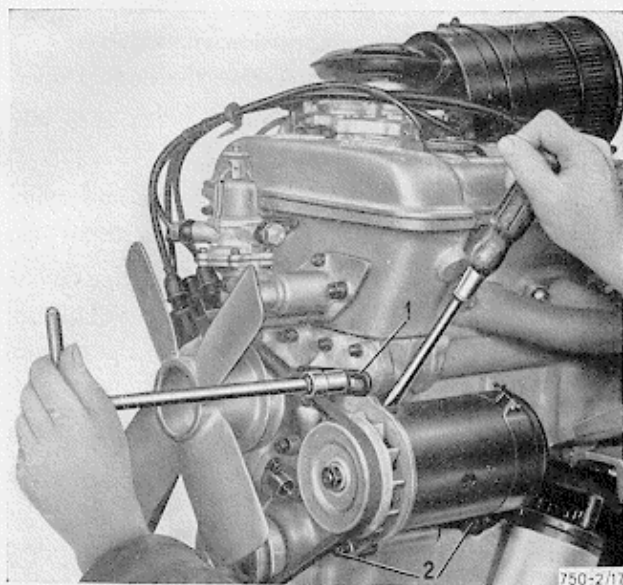
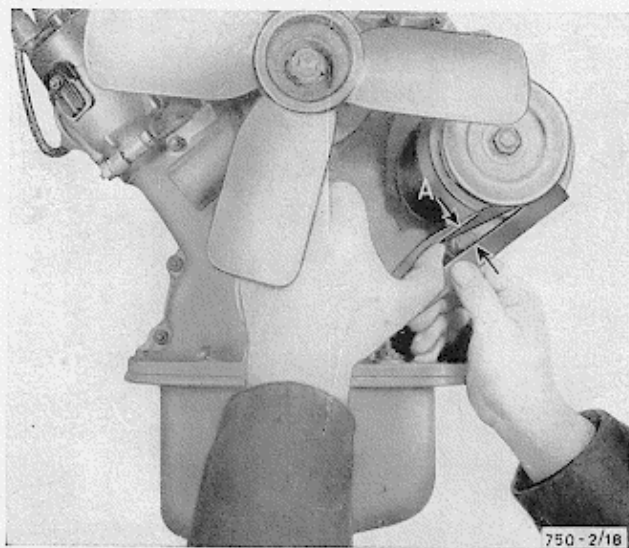

Fig. 17 - Tensioning the fan and dynamo driving belt:
Fig. 18 - Checking the tension of the fan and dynamo driving belt
l) **Check the tension of the belt driving the dynamo and the fan**; belt tension can be increased by moving the dynamo outwards after first slackening the top nut on the tensioning device **1** (fig. 17) and the two
nuts on the bottom bolts **2** (fig. 17) which fix the dynamo to the crank-case. In order not to make belt too tight, as this would damage the dynamo and the water-pump bearings, make sure that the amount of slack shown in fig. 18 is not exceeded.